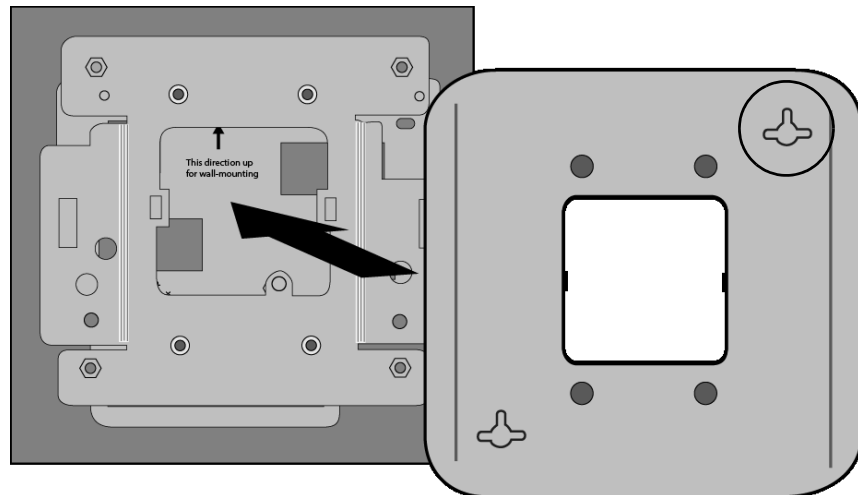

Figure 11. Installing the Cover on the Base Plate
1. Position the cover over the base plate and press until it snaps into place. The cover fits on the base plate only one way. The cover has outlines of two keyholes in opposite corners. The keyhole outline circled in Figure 11 has to be in the top right corner of the base plate.